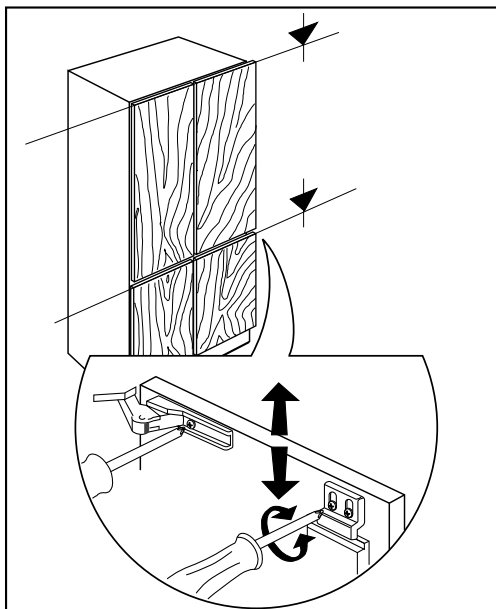

Fig. 10
- Repeat these operations for the other top door. Check the horizontal alignment of the door panels and adjust if necessary (Fig. 10).